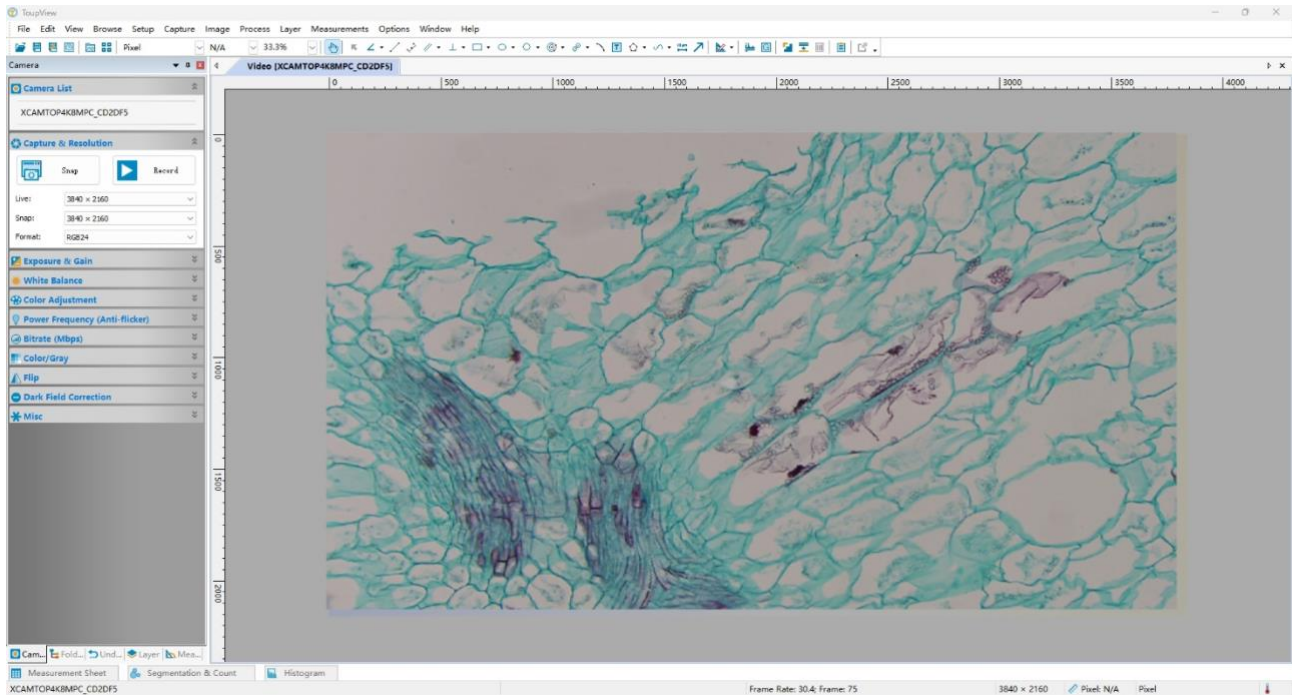

Figure 9 ToupView and XCAMTOP4K_MINI Series Camera in WiFi AP Mode
- Start ToupView/ToupLite software or ToupView App and check the configuration. Normally, the active XCAMTOP4K_MINI series cameras will be automatically recognized. The live image of each camera is shown in Figure 9. For the display, the Camera List tool window is used in ToupView/ToupLite software, and the Camera Thumbnail is used in ToupView App.